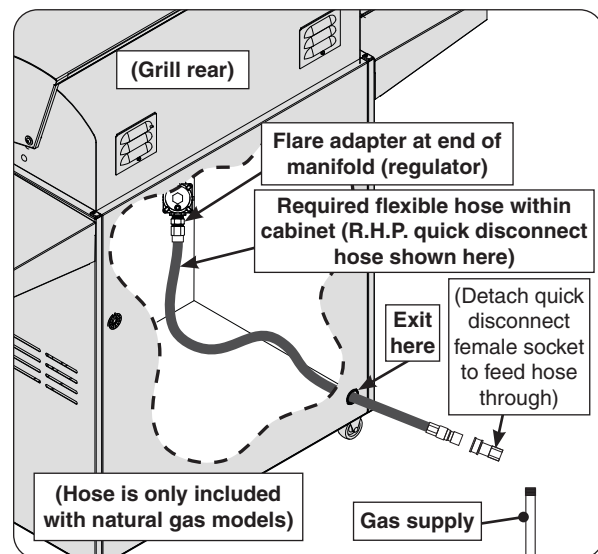

Fig. 17-2 Connecting to a gas line
2. **Household propane only:** A regulator hose assembly designed for L.P. cylinders comes pre-installed to the unit valve manifold. First remove this assembly from the flare adapter (at end of manifold), and then install a quick disconnect hose or similar (purchased separately) to the adapter. (An R.H.P. quick disconnect hose is recommended - see third bullet above.) Use a pipe joint compound resistant to all gasses on all NPT pipe fittings **except flare fittings**. Reference Fig. 17-2. Then proceed to step 3.
3. Route the quick disconnect hose (or similar) out of the hole in the rear bottom right of the cabinet, and to the gas supply (see Fig. 17-2).